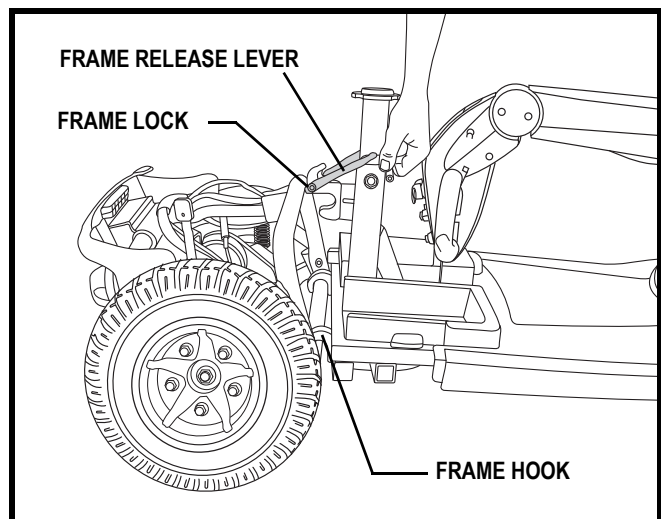

Figure 23. Frame Release
- Lift up on the frame release lever. See figure 23.
- Use the frame release lever to lift the front section as you align the frame hooks of the front section with the lower frame tube of the rear section. See figure 23.
- Once the frame hooks are over the lower frame tube, lower the front section completely. This will engage the frame lock. See figure 23.